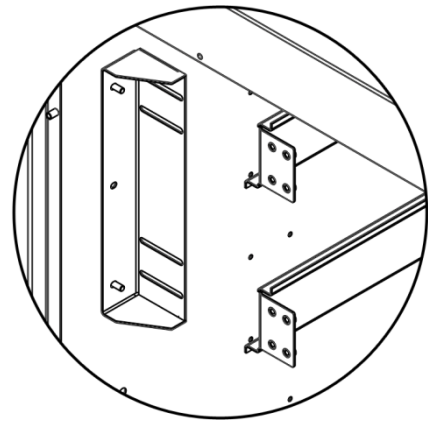

Figure 8
- To Lower: Loosen the fittings, rotate the bracket, lower and fasten to increase the distance between the display and the window (figure 8).